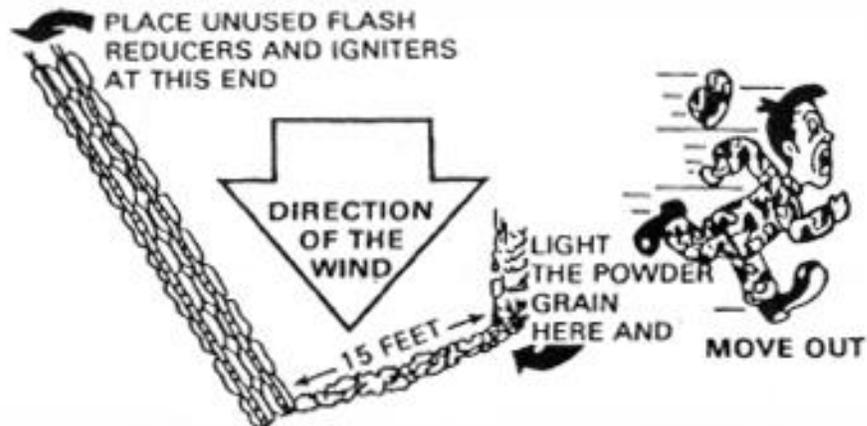

Figure 1-14. Propellant destruction
- **Place charge increments in a row not more than 12 inches wide and no more than one layer high. The row should be formed so the powder will burn into the wind (Figure 1-14).**